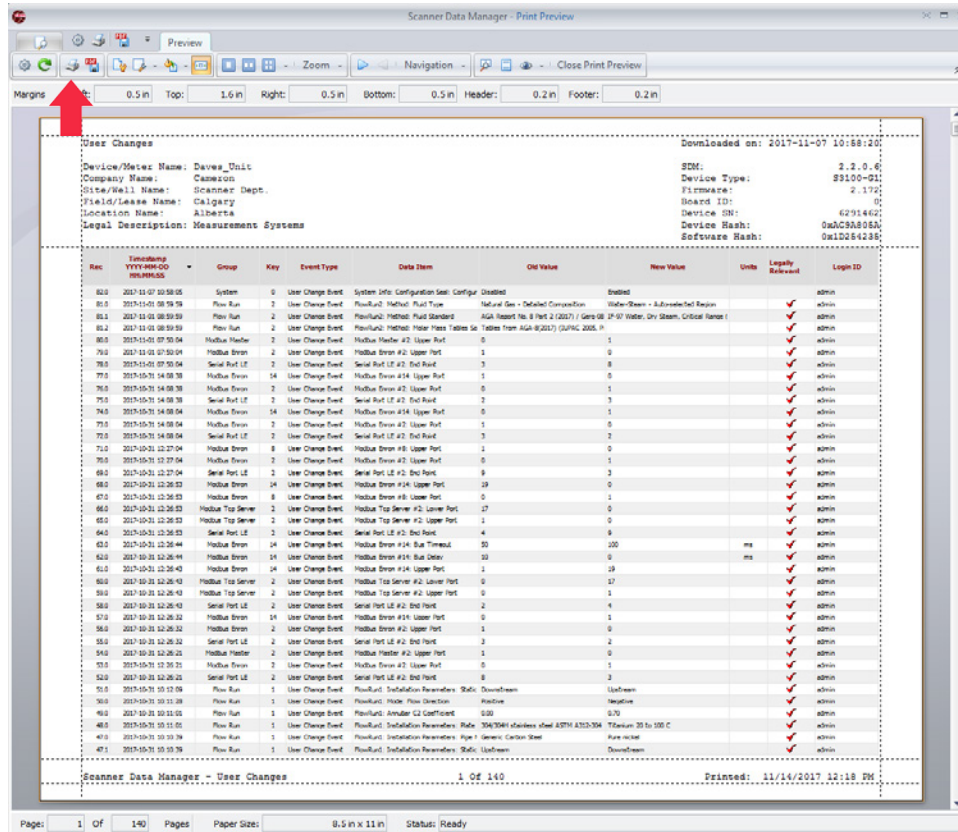

Figure 4.21—Print button location
5. From the *Print Preview* screen, click the **Print** button to print the report (Figure 4.21 1, page 62).